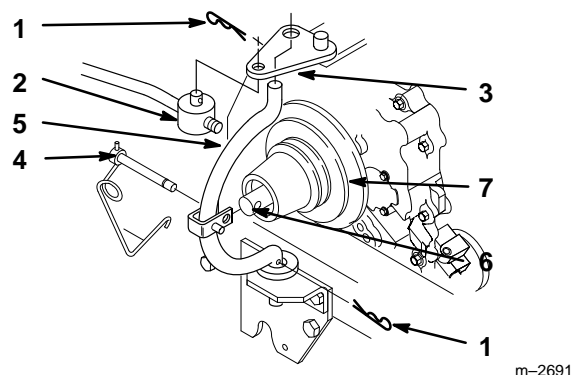

Figure 30
4. Unlatch and remove locking clevis pin that secures yoke assembly to clutch shaft. Pivot yoke out and forward to remove from clutch shaft and engagement plate (Fig. 30).
5. Replace belt in inside pulley groove (Fig. 30).
6. Assemble yoke and engagement plate and attach locking clevis pin, trunnion and hairpin cotters to secure (Fig. 30).